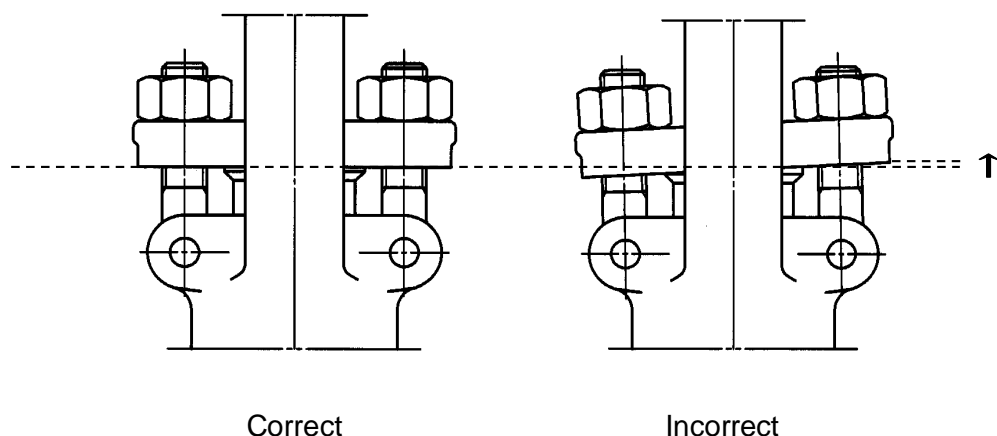

Figure 7.3 Examples for Adjustment (Tightening) of Gland bolt nuts
- 7) When tightening up the gland bolt nuts, the hand wheel should be turn now and then so to adjust the tightness of the gland packing, as shown in Figure 7.3. Tightening up the gland bolt nuts gradually and uniformly in order to avoid tendency to twist.